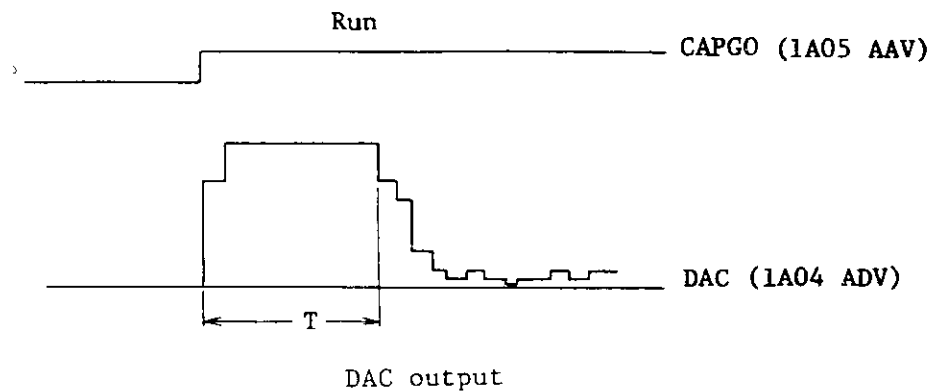

Figure L.11 DAC output-start time
- (1) Issue command \$E0 with a field tester to put the MTU in the normal speed mode.
- (2) Issue command \$30 to perform the forward start/stop operation.
- (3) Trigger the leading edge of signal CAPGO at 1A05 AAV. 1A05 AAV and 1A04 ADV are also available on the MTUlogic gate motherboard. Check that the time T shown in Figure L.11 is in accordance with Table L.1.